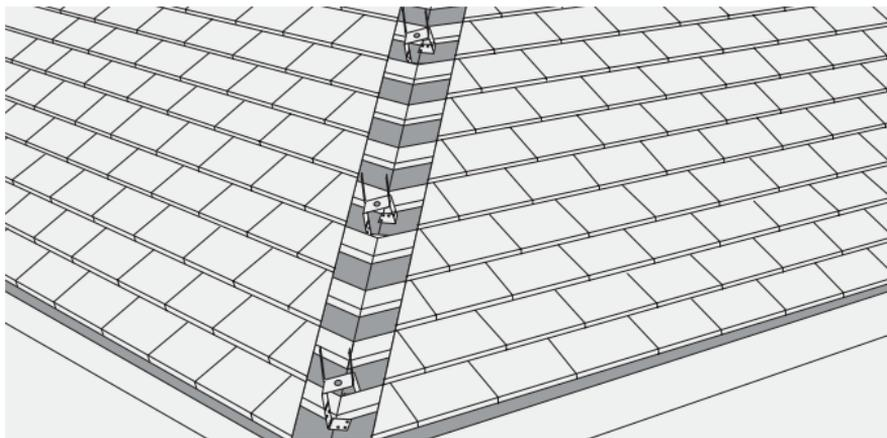

Fig. 56 – Lay tile to hip with raking cut
- 3 Tile roof leaving a gap of 80mm between raking cut tiles laid adjacent to hip rafter (Fig. 56). Ensure all raking cut tiles are fully supported on the battens and if not, provide suitable packers to prevent tiles from rocking.